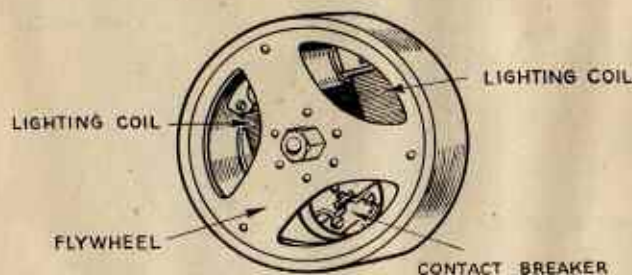
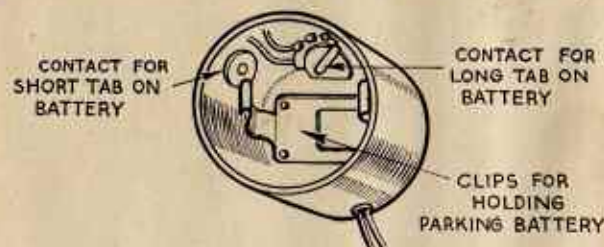

FIG. 13.
FIG. 16.
**Lighting Current.**—On machines fitted with Villiers engines current for the lights is supplied from coils housed in the flywheel magneto (see Fig. 13). The bulbs used are as follows: Main headlamp, 6 volt, 1 amp. (single contact), which latter means that the bulb holder itself acts as the second or earth contact; headlamp pilot bulb, 4 volt, .3 amp. (screw-in type); tail lamp, 4 volt, .3 amp. (screw-in type). Current is supplied from the dynamo only when the engine is running, and a 4 volt dry battery is fitted into the back of the headlamp case to operate the pilot light when the machine is standing or being wheeled (see Fig. 16). A switch is mounted on top of the headlamp by use of which either main or pilot light can be selected.